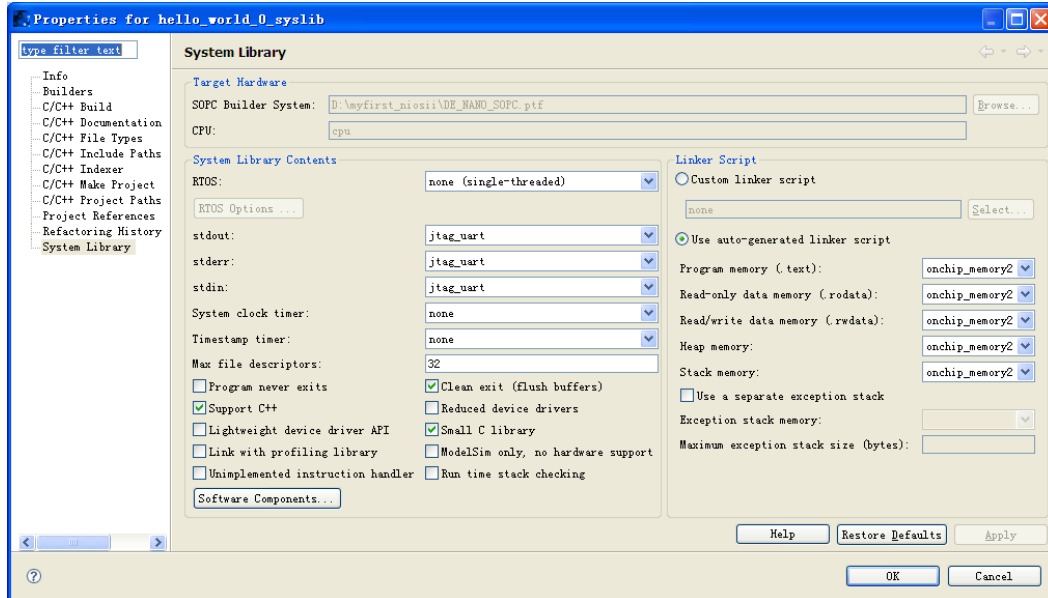

Figure 7-61 Configuring System Library Properties
3. In the **Linker Script** box, observe which memory has been assigned for **Program memory(.text)**, **Read-only data memory(.rodata)**, **Read/write data memory(.rwdata)**, **Heap memory**, and **Stack memory**, see **Figure 7-61**. These settings determine which memory is used to store the compiled executable program. You can also specify which interface you want to use for `stdio`, `stdin`, and `stderr`. You can also add and configure an RTOS for your application and configure build options to support C++, reduced device drivers, etc.
4. Select **onchip\_memory2** for all the memory options in the **Linker Script** box, as shown in **Figure 7-61**.